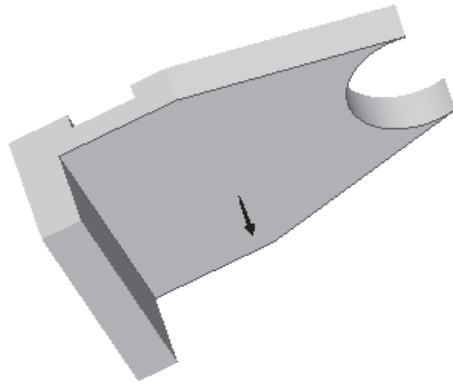

Figure 4-88 Arrow showing the direction of feature creation
To create the hollow cylindrical feature, you require a datum plane. This datum plane will be created at an offset distance of 10 from the bottom surface of the second feature shown in Figure 4-88. The datum plane will be created on the fly.
5. Spin the model using the CTRL+middle mouse button and then using the left mouse button, select the planar surface shown in Figure 4-88.
A green colored arrow is displayed on the selected planar surface as shown in Figure 4-88 and the **Message Input Window** is displayed with a default value. You are prompted to enter a value in the direction shown by the arrow. The arrow shows the direction of datum plane creation.